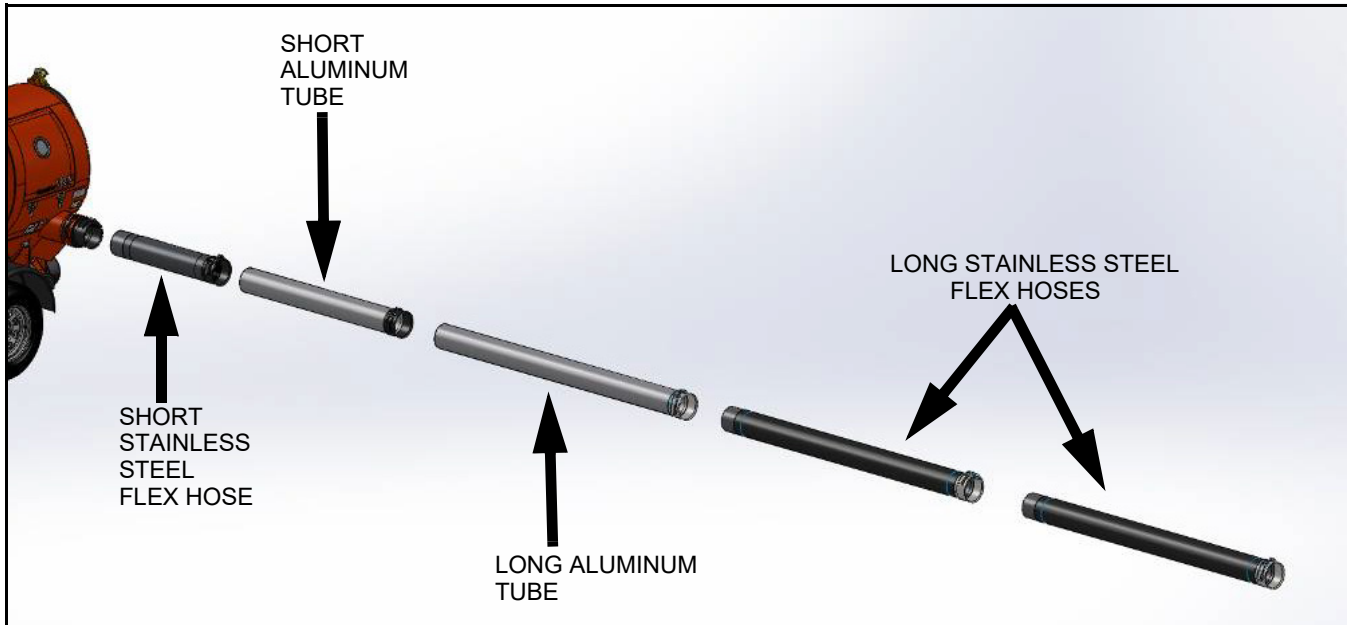

Figure 4.12 Recommended Hose Configuration for Clean-Up
14. After the bin draw down is complete and the grain no longer flows into the intake hose, add the straight aluminum tube to machine and move the steel flex hose into the bin to pick up the majority of the grain pile (for this reason, the GrainVac is also the ideal machine to clean up grain piles in the open or on a pad). In some cases it may be necessary to combine these two hose options (see Figure 4.12) to obtain the best performance. As the bin nears empty, additional lengths of hoses & tubes will be required. Attach an additional steel tube or flex hose as required for the job to be done. As the intake hose gets longer, it will be necessary to allow more air to enter the intake hose to provide the necessary airflow.